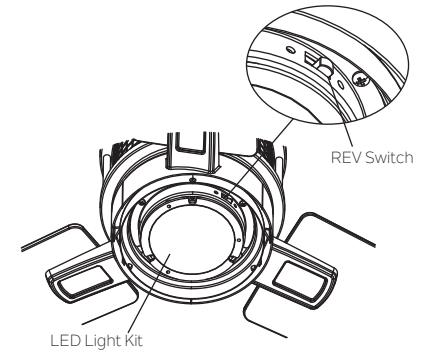

Fig. 21
4. REV switch: Controls direction, forward or reverse. (Fig. 21)